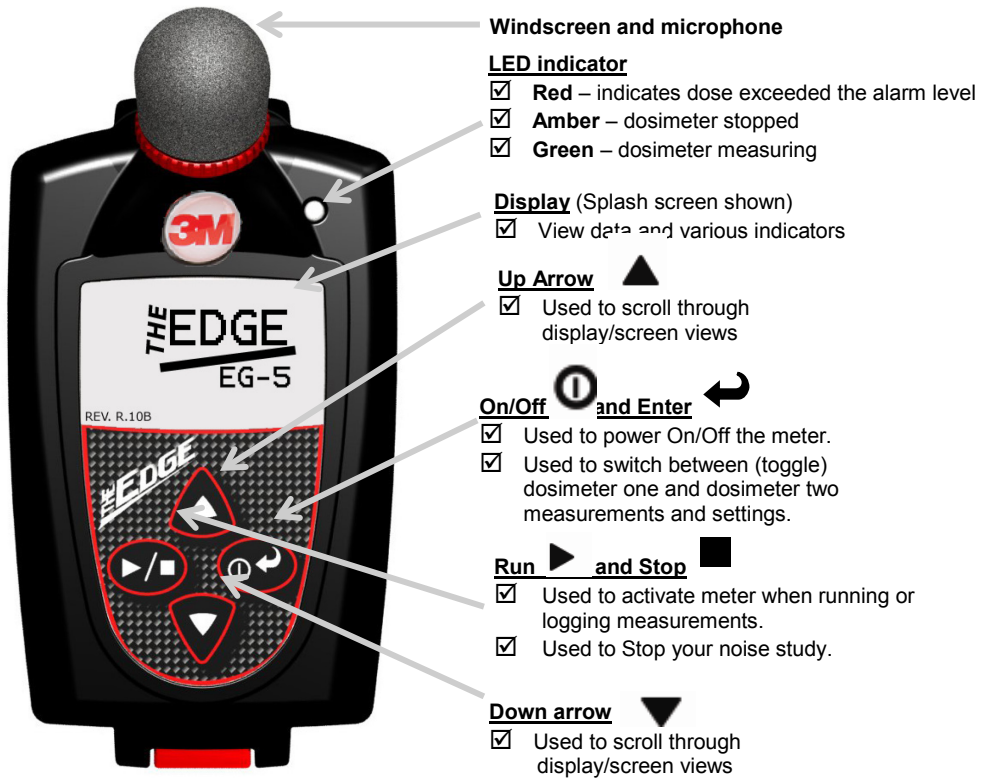

Figure 2-3: Edge Keypad
- The Edge **splash screen** (see Figure 2-3 for an example, page 10) will appear indicating the model (i.e. “eg5”) and firmware version. The screen will be in the **measurement view**.